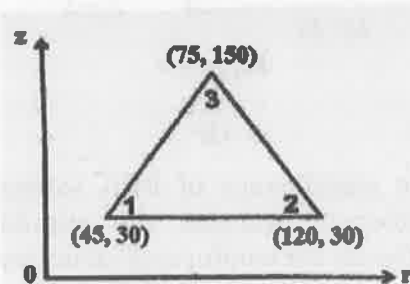

Figure 5
14. (a) For an axisymmetric triangular element as shown in figure 5. Evaluate the stiffness matrix. Take modulus of elasticity $E = 210 \text{ GPa}$. Poisson's ratio = 0.25. The coordinates are given in millimeters.